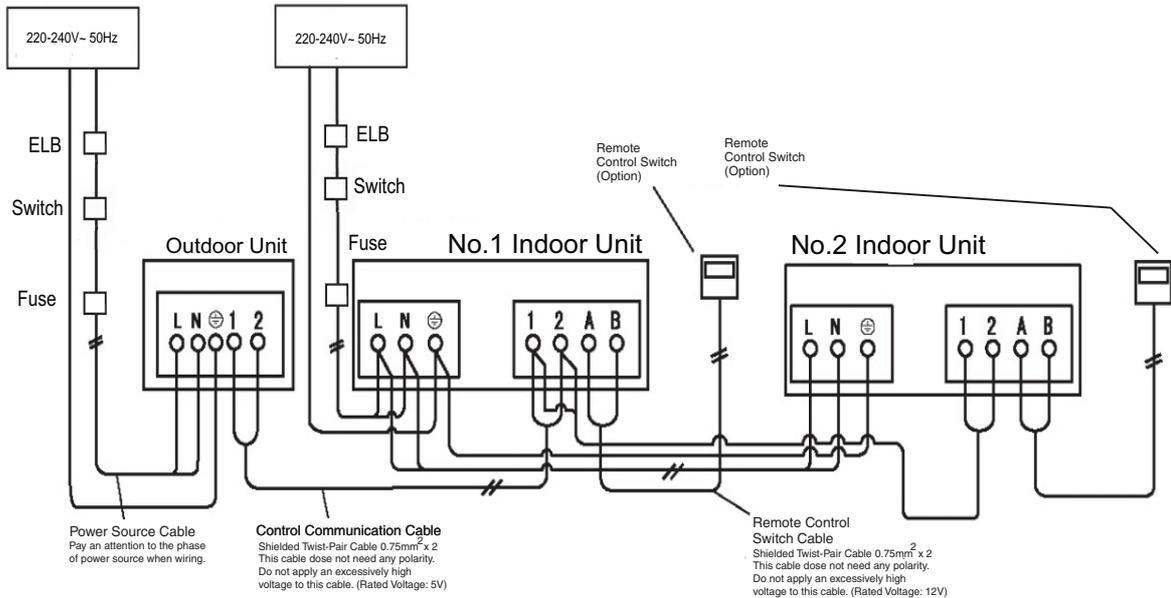

Fig. 6.2 Wiring Connection for Indoor & Outdoor (1 PHASE)
- (1) Connect the power supply wires to the terminal board in the electrical control box of both outdoor unit and indoor unit. And connect the earth wire to the electrical control box of outdoor unit. In addition, connect the earth wire to earth screw in the electrical control box of indoor unit. Refer to Fig. 6.2.